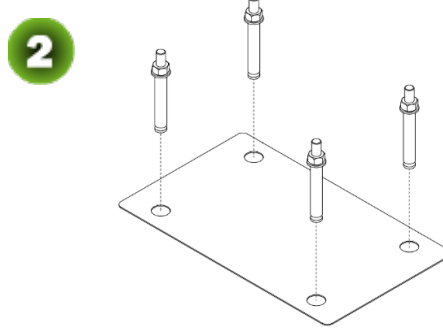

Figure 2-3
- 2) Drive four expansion bolts into the Bolt Holes Dimensioning, as shown in Figure 2-3.